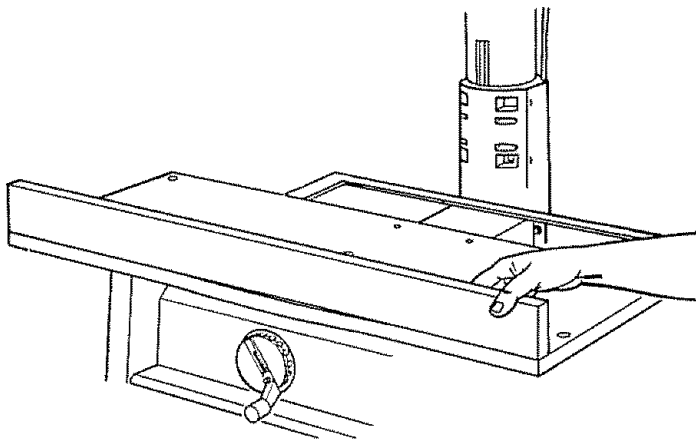

Fig. 66
9. Lay the edge of the *rear table* across the center of the *front table*, and check to see if there is a gap between the two. (Figure 66)